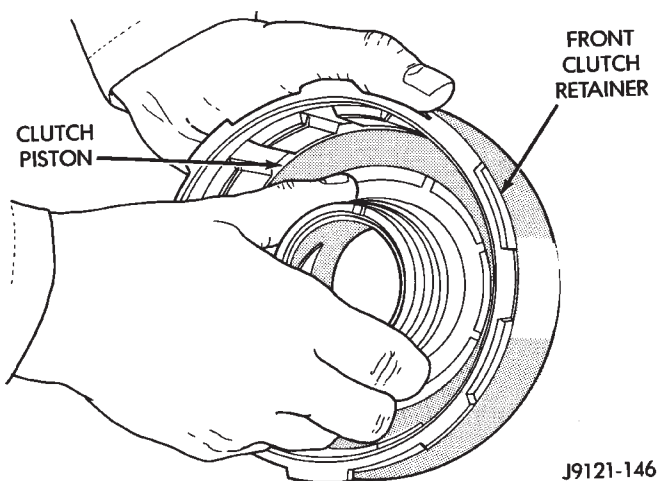

Fig. 61 Front Clutch Piston Installation
(1) Soak clutch discs in transmission fluid while assembling other clutch parts.
(2) Install new seals on piston and in hub of retainer. Be sure lip of each seal faces interior of clutch retainer.
(3) Lubricate lips of piston and retainer seals with liberal quantity of Door Eze, or petroleum jelly. Then lubricate retainer hub, bore and piston with transmission fluid.
(4) Install clutch piston in retainer (Fig. 61). Use twisting motion to seat piston in bottom of retainer. **Do not attempt to push the piston straight in. This could fold the seals over causing leakage and clutch slip.**